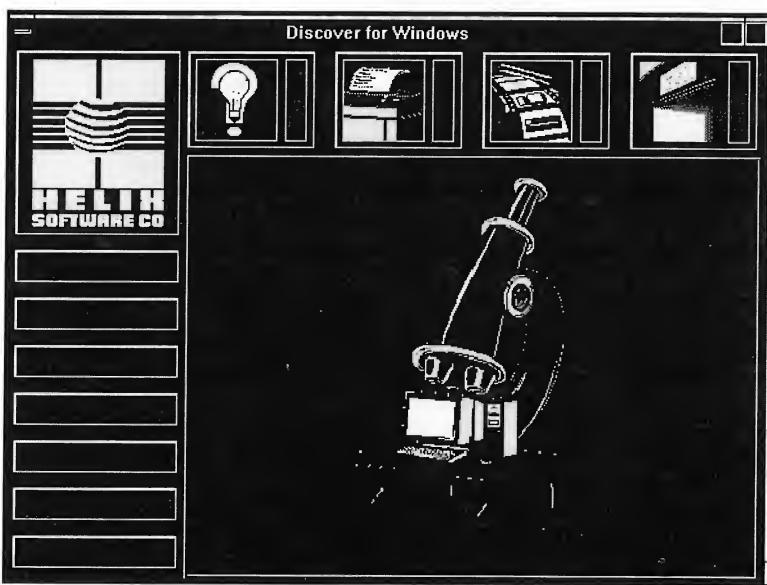
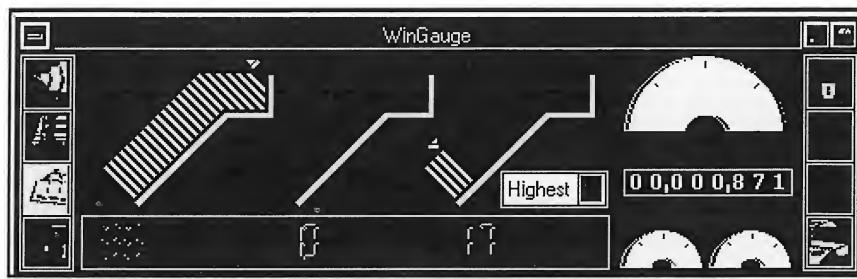

Fig. 1. *Hurricane*'s Discover for *Windows* utility.
Fig. 2. Hurricane's WinGauge utility.
*Hurricane* is a set of utilities that are designed to enhance *Windows* memory and speed up *Windows* performance. These tools are completely automatic and self-configuring, and they're supposed to provide substantial performance and reliability improvements to any *Windows* system. In addition, *Hurricane* provides a sophisticated set of information tools—Discover for *Windows* and WinGauge (Fig. 1 and Fig. 2).
Another snafu you may experience during setup is the message, "Error occurred while attempting to copy file. Could not locate file: 'x:\MVCL13N.DLL'" (Fig. 2). This is because the file doesn't exist on the CD-ROM. The cure is to install the *MicroComputer Journal* CD from the supplied floppy disk, which has the file, or run the Minimum Setup option from the CD. You don't lose anything by using the Mini-
**Fig. 2.** If you get this error message when trying to install *MicroComputer Journal* CD-ROM, quit and install the program from floppy disk or run the Minimum setup option from the CD.